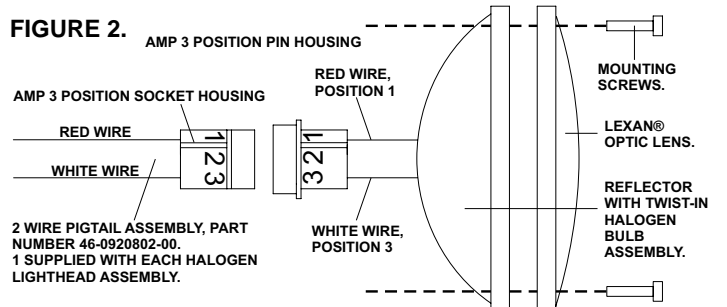

FIGURE 2.
3. Each Whelen halogen remote light head assembly is supplied with a 2 wire pigtail assembly (see figure 2), to be butt spliced to the interconnecting cables. Make sure, when butt splicing, to match the colored wires of the pigtail assembly to the same colored wires of the flasher module.
The head assemblies are supplied un-assembled, and parts vary for the different models making up the system. After connecting the halogen reflectors to the interconnecting cables using the 2 wire pigtail assemblies (see figure 2, page 2), install the unit according to the instructions provided with the halogen light heads. It is recommended not to finalize the installation of the individual remote halogen light head assemblies until the complete system has been tested, since it is possible that minor adjustments may be needed later on.